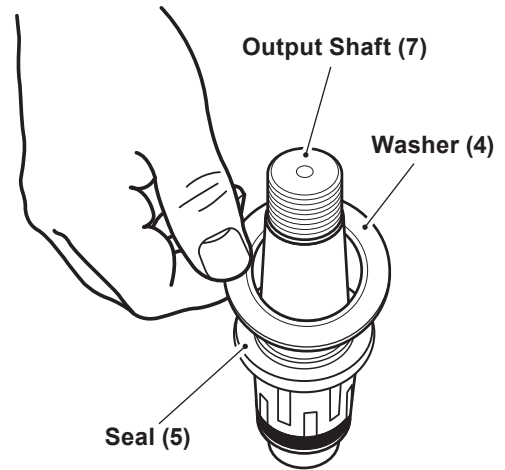

Figure 2, Washer
2. Remove the bullet and mount the washer (4). See figure 2.